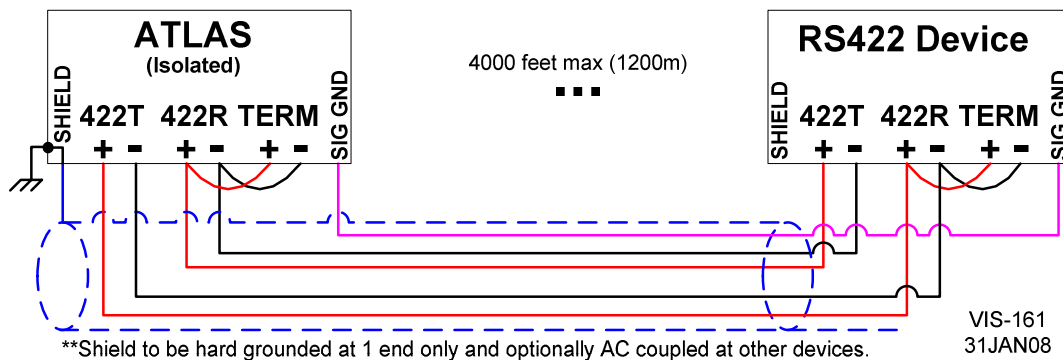

Figure 4-23. Wiring Example—RS-422 Interface to the SmartCore CPU A5200 Board
- **RS-485.** Refer to Figure 4-23 for RS-485 wiring. The data lines (485+ and 485-) and signal ground (SIG GND) must be properly connected as shown. In addition, the shield (SHLD) should be connected in at least one location. The unit at each end of the network should be terminated with a resistor.